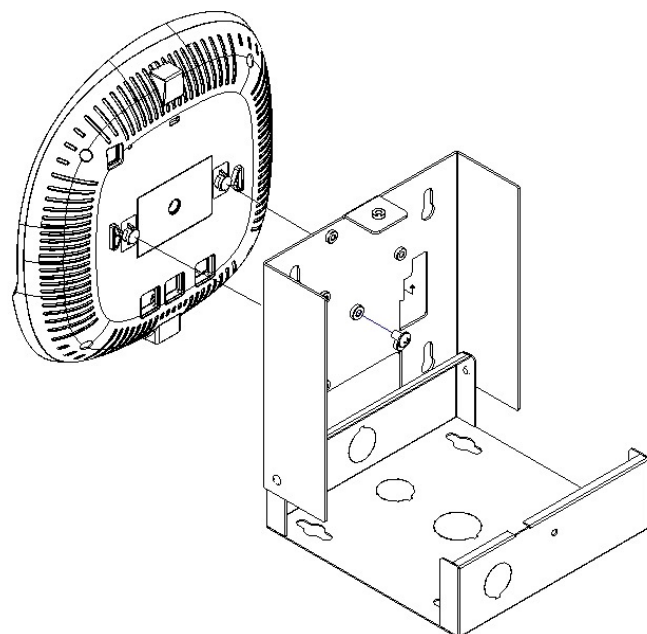

Figure 1 - Aruba Installation
Step 1 - Place the Oberon mount on a flat work surface. If hanging mount from a conduit pipe, remove the center knockout on the base. Determine which knockout is to be used for the data cable and remove the knockout. Remove the one (1) screw holding the base and cover of the Oberon mount together and place it aside to be used later.
Step 2a (**ARUBA INSTALLATION**) – To install an Aruba access point, align the round bosses on the back of the access point with the opening on the cover of the Oberon mount. Slide the access point down and secure in place using the #8-32 screw. Install the screw into the center nut to prevent the access point from being dislodged (Ref. Figure 1).